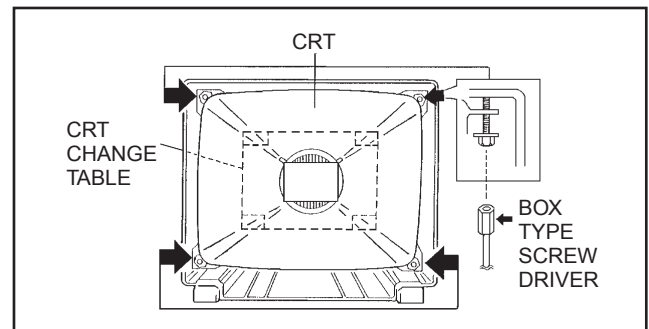

Fig.8
- (4) After 4 screws have been removed, put the cabinet slowly on cloth (At this time, be carefully so as not to damage the front surface of the cabinet) shown in Fig. 8.